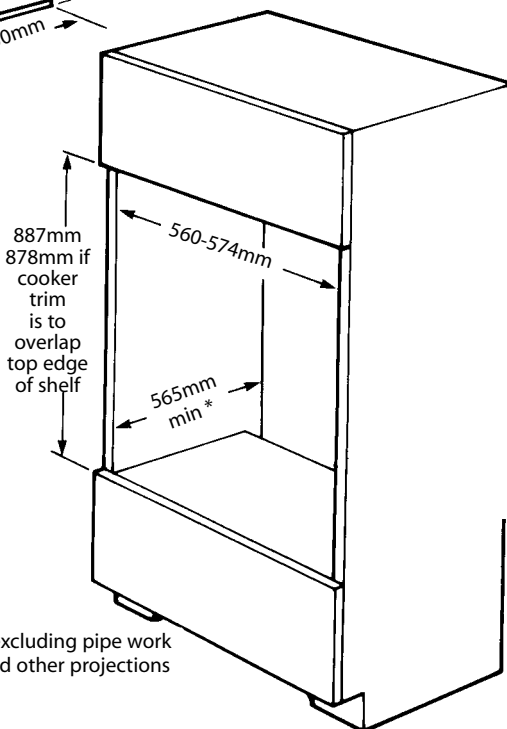

Fig. 4
- a. The oven housing unit cabinet dimensions must comply with fig. 4.